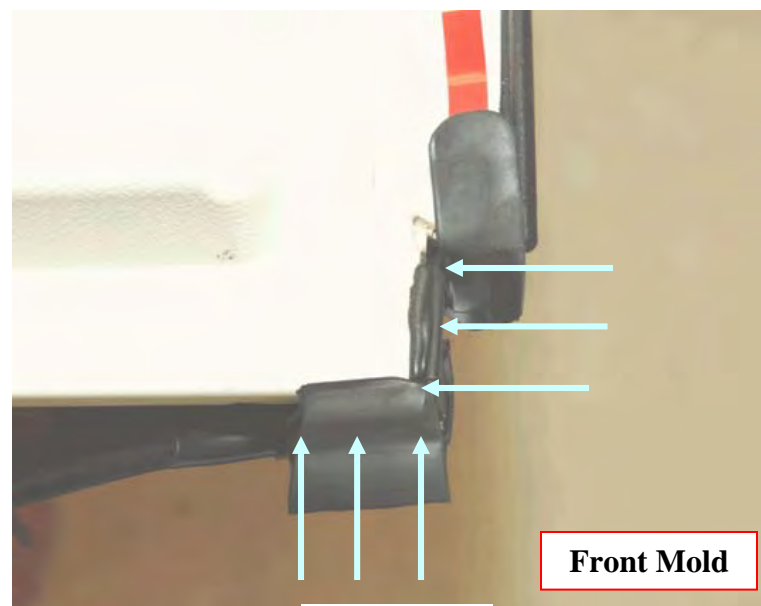

Figure 21
- Compress butyl by installing seal in direction of arrows (Figure 21)
- Note: No gap between installed seal and outer edge of freedom panels. (Figure 21)